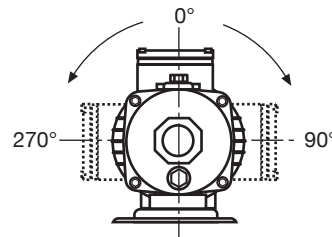

Fig 2
- Position of terminal box (Fig 2)